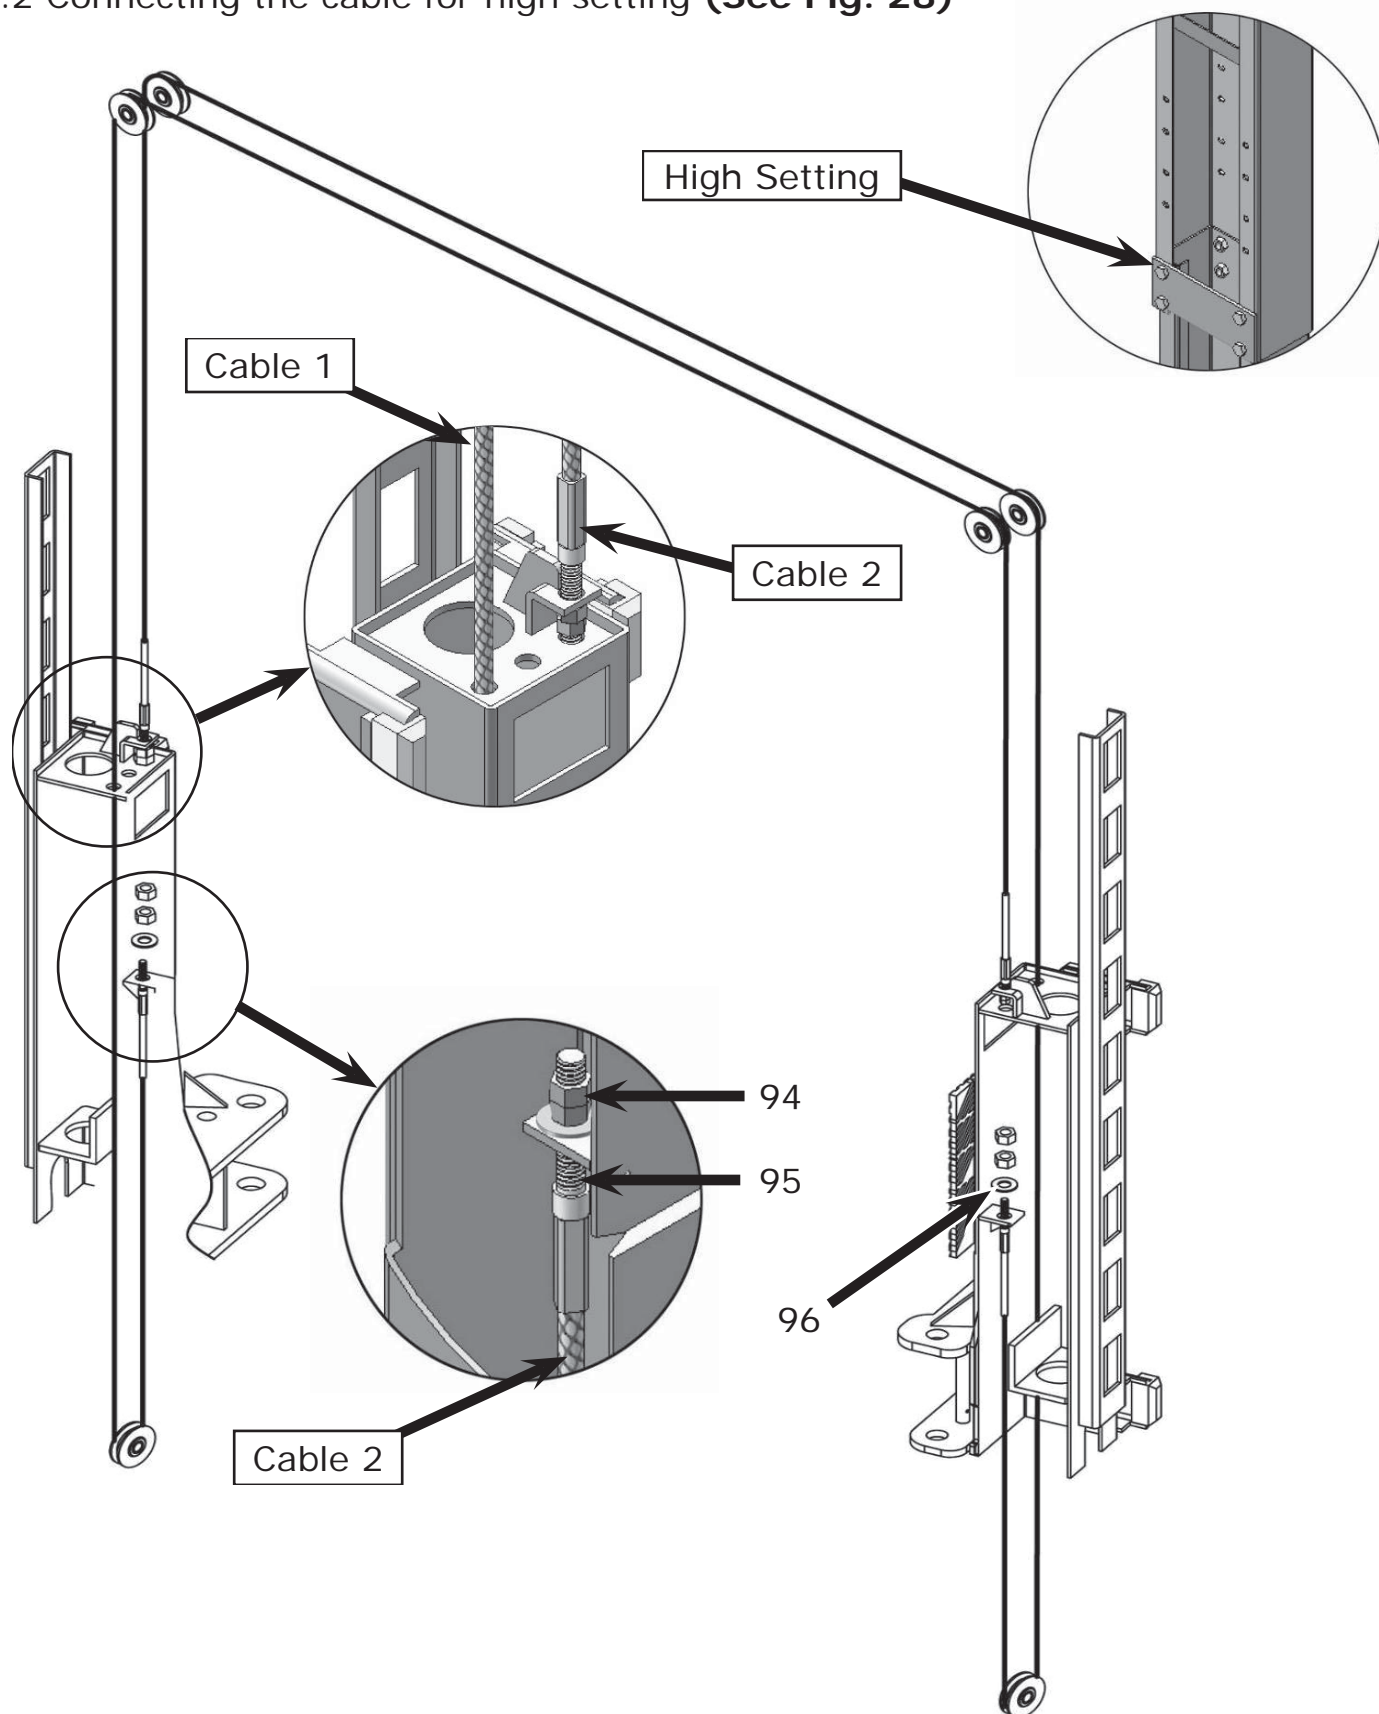

Fig. 28
1.2 Connecting the cable for high setting (See Fig. 28)